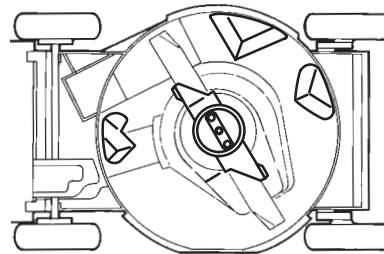

Figure 24
4. Tip the lawn mower on its left side (Fig. 24).